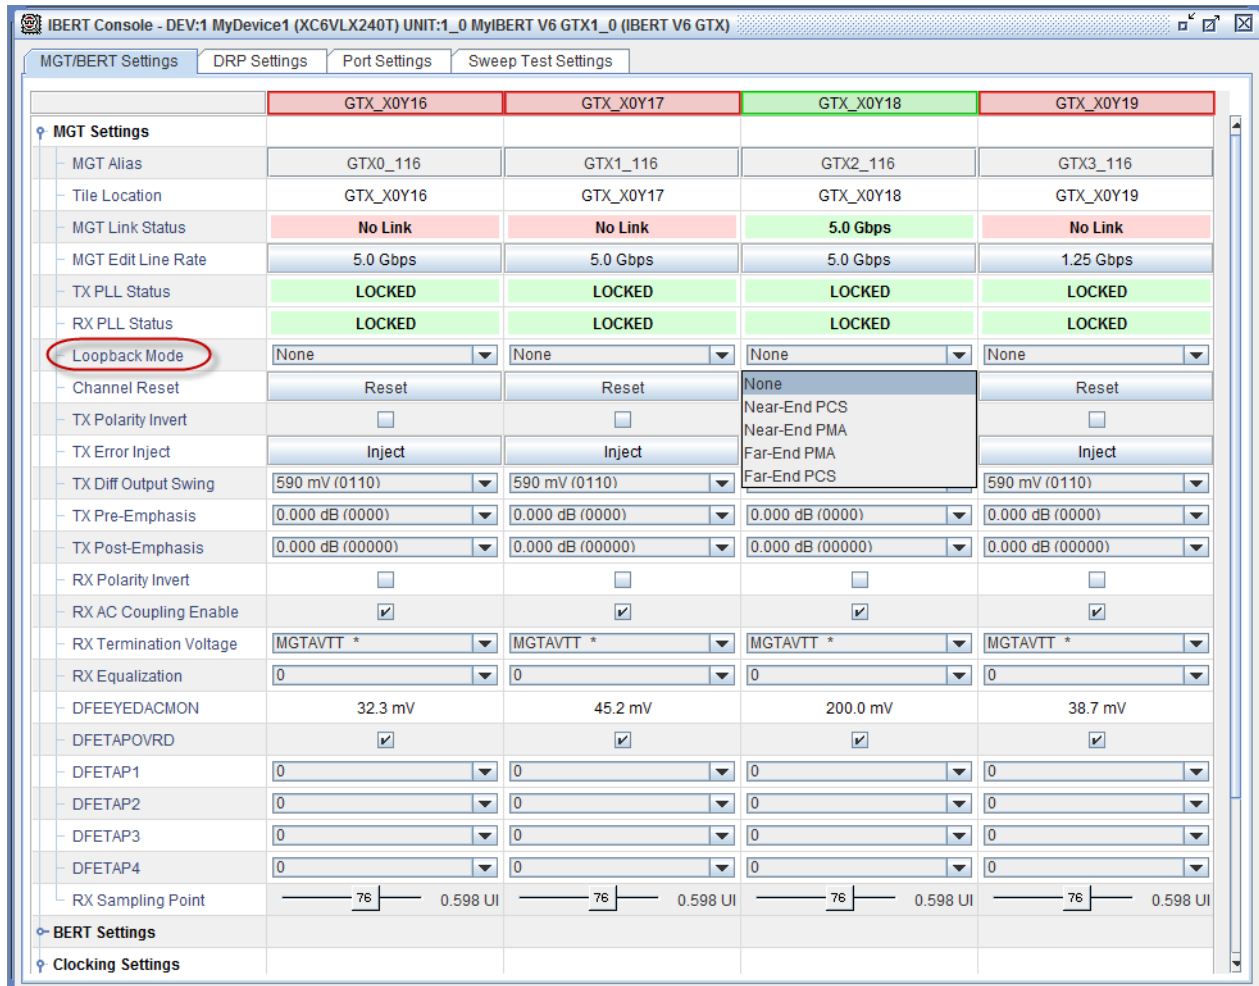

Figure 5: IBERT Console Window for Virtex-6 FPGA GTX Transceivers
4. With initial settings on the loopback modes, the interactive **IBERT Console** window appears, as shown in Figure 5.